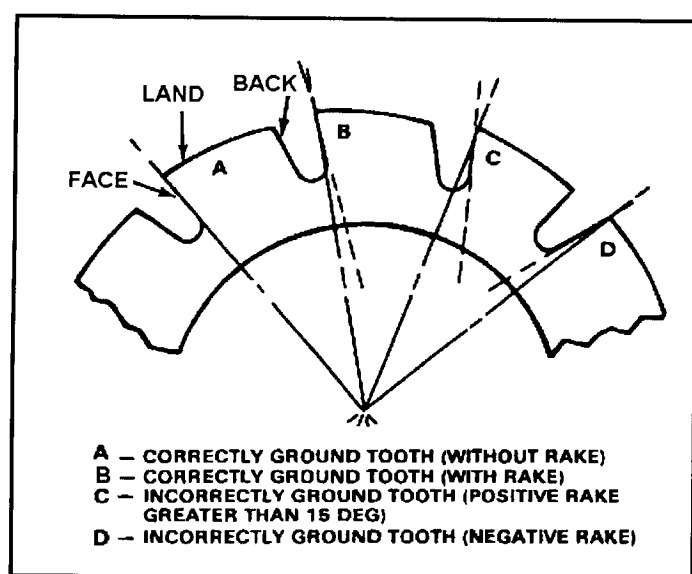

Figure 5-17. Correct and incorrect grinding of formed milling cutter teeth.
- Formed cutters are ground by radial grinding. Correctly ground cutter teeth are shown at A and B, Figure 5-17. At A, the tooth is ground without rake; only cutters originally shaped without rake should be reground without rake. At B, a correctly ground tooth is shown with positive rake. Rake angles are commonly between 10° and 15° from the radius passing through the cutting edge, 12° being the most commonly used angle. The tooth shown at C, has excessive positive rake this tooth will gouge, making an excessively deep cut, and the cutting edge will dull rapidly with hard materials. The tooth shown at D, Figure 5-17 has negative rake; this tooth will drag and make a shallow cut.
On new cutters, the back (Figure 5-17) of each tooth should be ground accurately before grinding the face. This procedure is recommended so that an accurate reference surface is provided for the index finger of the grinding machine attachment. Another method of assuring this alignment is by mounting another cutter containing the same number of teeth on the same arbor with the cutter being ground. With the second cutter properly aligned and locked in place, the index finger can be used against the second cutter's teeth.